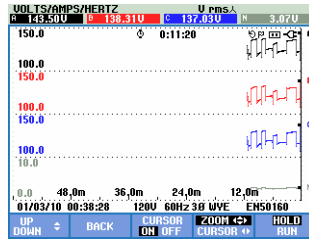

Figure 23-6. Trend display with cursor and zoom on
- Press F4 to assign the arrow keys to Zoom operation. The left/right arrow keys can be used now to stretch and shrink the trends horizontally as shown in figure 23.6. The up/down arrow keys do this in vertical direction. If the Cursor is on, horizontal zoom operates symmetrically around the Cursor; when off horizontal zoom operates from the right screen side.